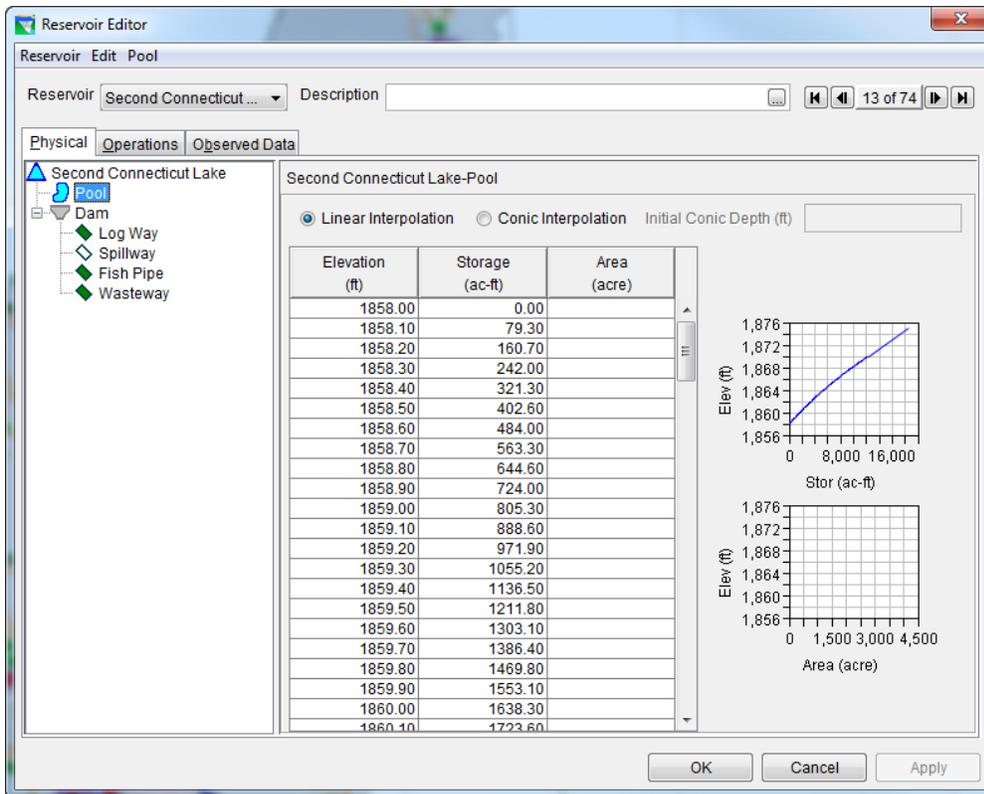
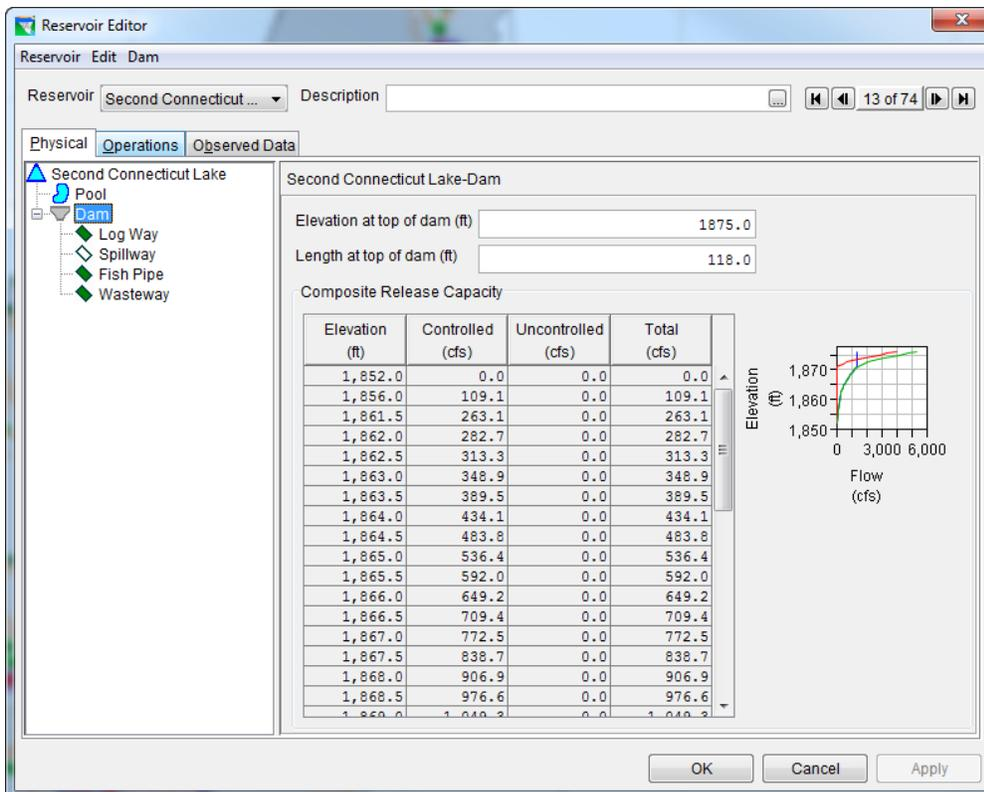

Figure 3: Reservoir Editor: Physical Tab -- Pool
Figure 4: Reservoir Editor: Physical Tab -- Dam
The physical characteristics of the reservoir are separated between the Pool and the Dam in the HEC-ResSim model. The elevation-storage-area defines the pool as shown in Figure 384. The dam consists of four types of outlets: (1) controlled Log way, (2) uncontrolled spillway, (3) controlled Fish Pipe, and (4) controlled Waste way as shown in Figure 4.